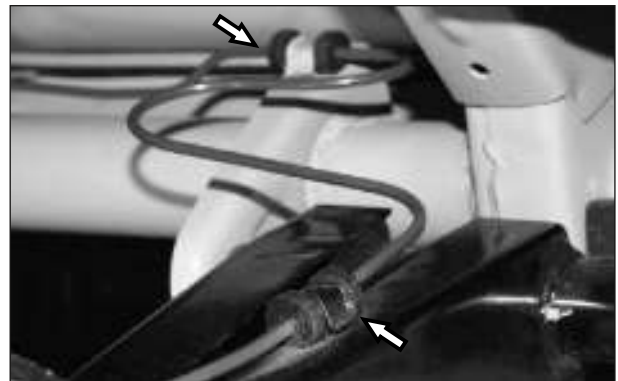

Fig. 5.69
- Unfold the bundy tube clamps. Take out the bundy tube from trailing arm clamps . (Fig. 5.69)